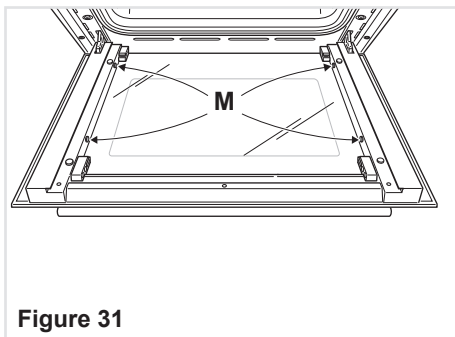

Figure 31
- Check that the four rubber pads are in place ("M" in fig. 31).